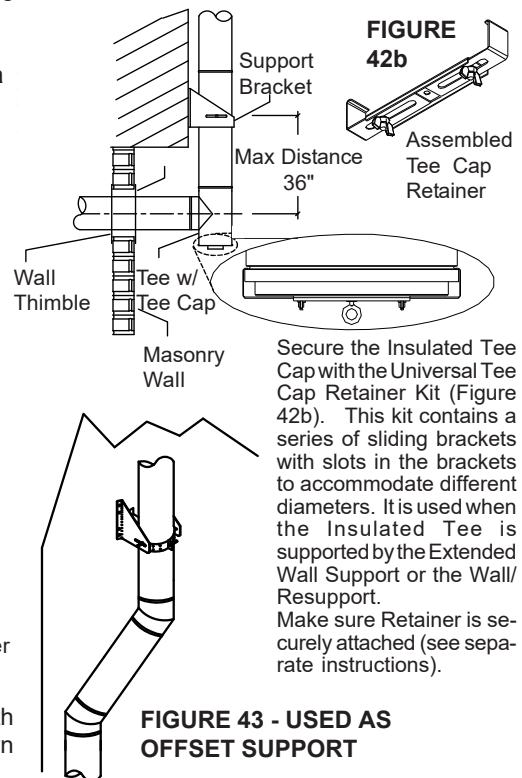

FIGURE 43 - USED AS OFFSET SUPPORT
12. The Universal Wall Support/Re-Support can also be used as an Offset Support in an installation run along a wall (see Figure 43).